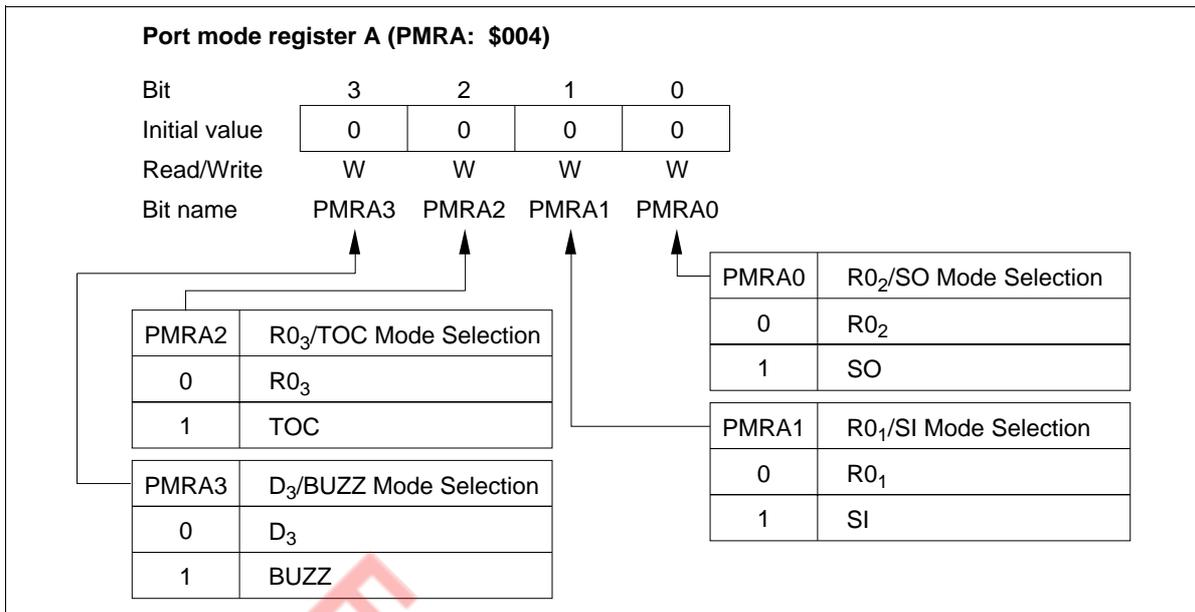

Figure 60 Port Mode Register A (PMRA)
**Port Mode Register A (PMRA: \$004):** This register has the following functions (figure 60).